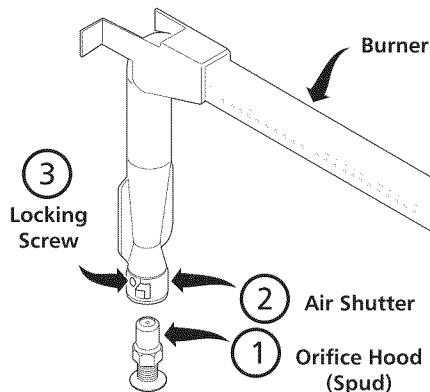

Fig. 18
- Turn off oven and allow to cool before adjusting air shutter. To adjust loosen lock-screw (See Fig. 18), reposition air shutter, and tighten lock-screw.